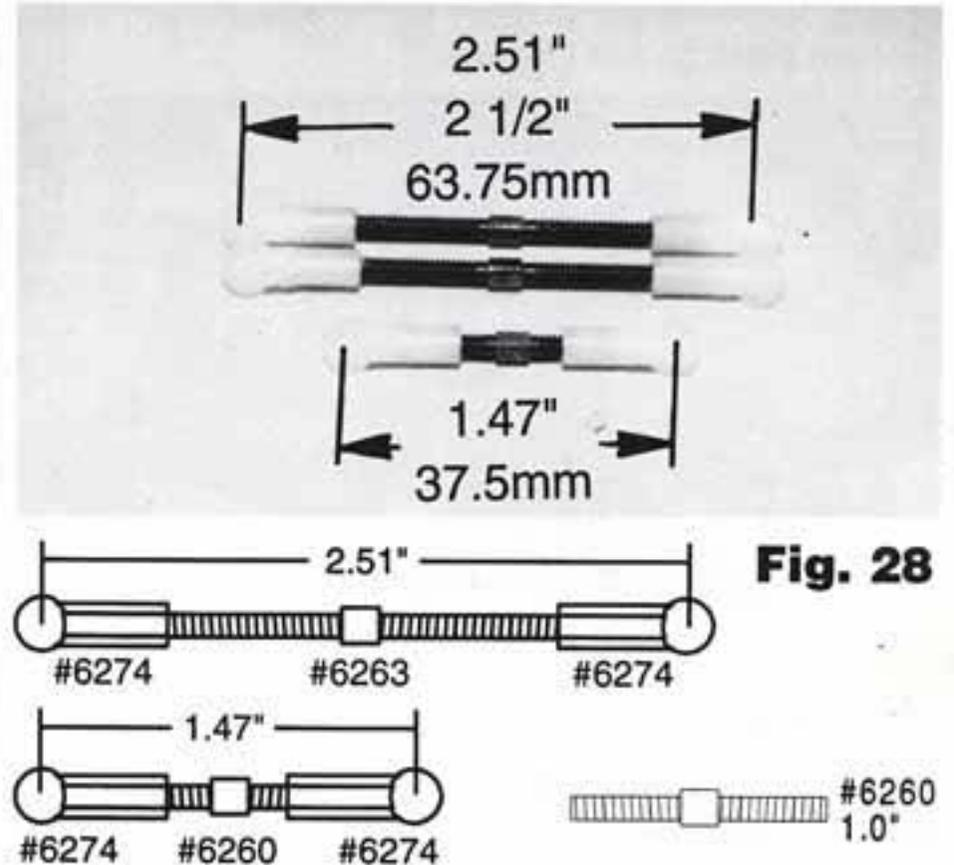

Fig. 28
□ **Fig. 28** Remove the two #6263 2.06" length turnbuckles and one #6260 1.0" turnbuckle from bag #6-2. Now remove six of the #6274 plastic ball end caps from bag #6-14 and thread them evenly onto the turnbuckles. The plastic ball end caps will all face the same way on these turnbuckles.
□ **Figs. 31 & 32** Now go ahead and install one of the #6263 steering turnbuckles assembled in fig. 28 onto the right hand side steel ball ends on the #6221 nylon steering arms, and on the #6254 nylon bell crank arms (fig. 31). Do the left hand side. In bag #6-5 remove the #6330 body mount. Thread this onto the driver's right side screw as shown in fig. 32.